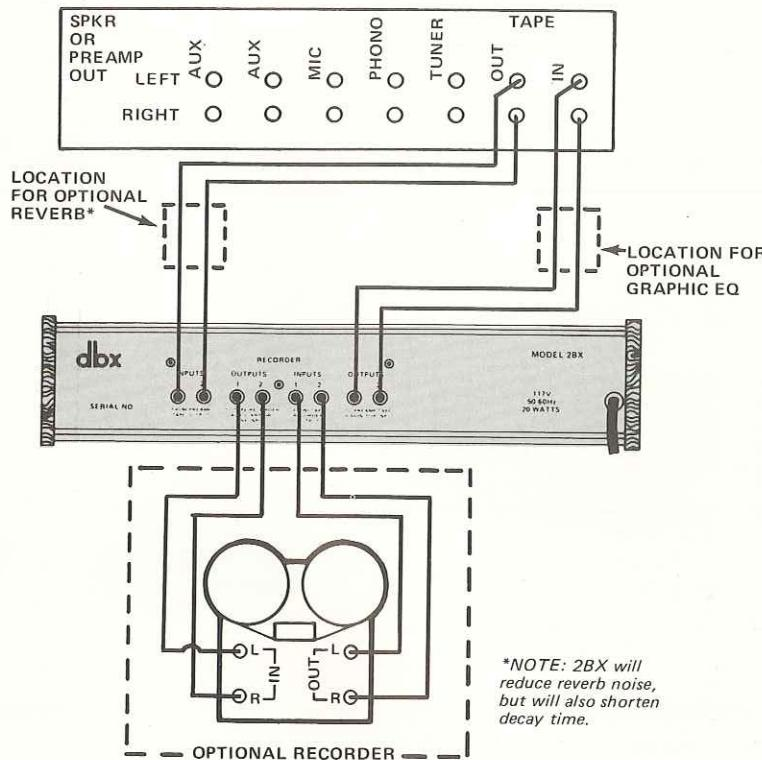

Fig. 1 — How to Connect the 2BX to Your Receiver, Preamplifier or Integrated Amplifier. This is the preferred hookup assuming a tape monitor loop is available.
3. If you do have a tape recorder and wish to expand before you record, use the connections shown in Figures 1, 2 or 3.
2. If you do not have a tape recorder connected as shown in Figures 1 through 3, press IN the SOURCE and PRE buttons.